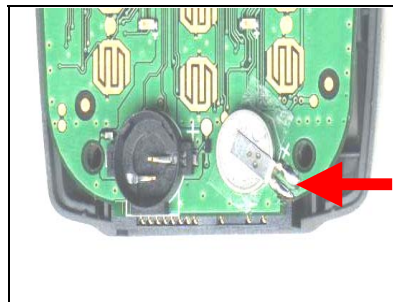

Fig. 9.1
- Check the RTC Backup Battery (Fig. 9.1) if it's incorrectly soldered, Mechanically damaged, dirty or oxidized. Replace the RTC Backup battery if it's necessary.